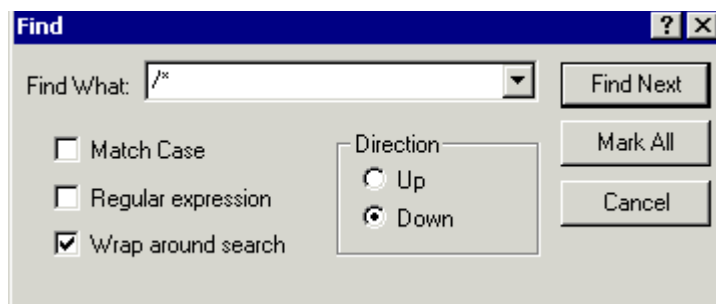

Figure 3-15. Find Dialog Box: Locating All Occurrences of `/*`
2. From the **Edit** menu, choose **Find** to open the **Find** dialog box, shown in Figure 3-15.